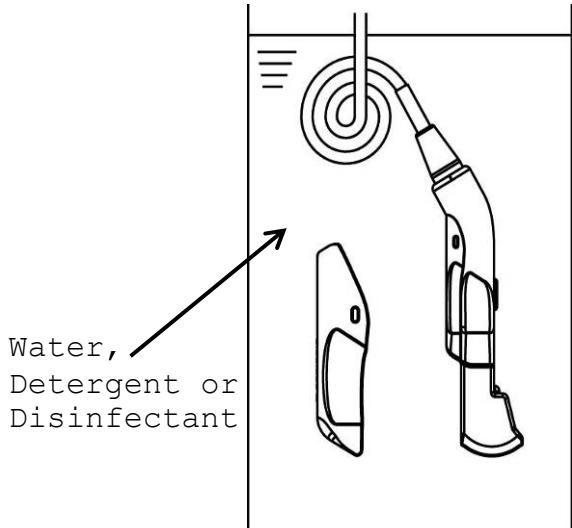

Fig. 21 Immersion of the probe and the Attachment.
- 2) Immerse the immersible part of the probe without connector into the diluted detergent solution (see Fig. 21). Wipe the immersible part of the probe under the surface of the detergent solution with a soft cloth to remove all visible soil. Be sure that all grooves of the probe are implemented during the cleaning process.
- 5) Rinse the probe with running tap water for 1 minute. (alternatively: immerse the immersible part of the probe in a tray filled with deionized water/tap water (see Fig. 21) for 5 min.)
- 4) Rinse the Attachment with running tap water for 1 minute. (alternatively: immerse it in a tray filled with deionized water/tap water (see Fig. 21) for 5 min.)
- 3) Immerse the immersible part of the probe into the disinfectant (see Fig. 21). Set a clock to insure the recommended contact time which is 5 minutes.
- 4) Rinse the immersible part of the probe with deionized water for 1 minute. (alternatively: immerse the immersible part of the probe in a tray filled with deionized water (see Fig. 21) for 5 min.)
- 2) Immerse the Attachment into the disinfectant (see Fig. 21). Set a clock to insure the recommended contact time which is 5 minutes.
- 3) Rinse the Attachment with deionized water for 1 minute. (alternatively: immerse it in a tray filled with deionized water (see Fig. 21) for 5 min.)